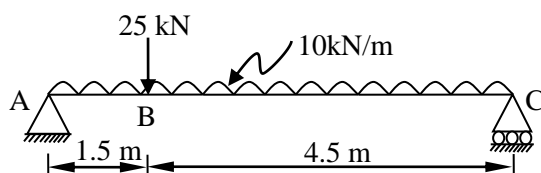

Fig. 1: Q.6 (a)
- Q.6** (a) Draw Shear force and Bending moment diagram for a beam shown in fig. 1. **07**